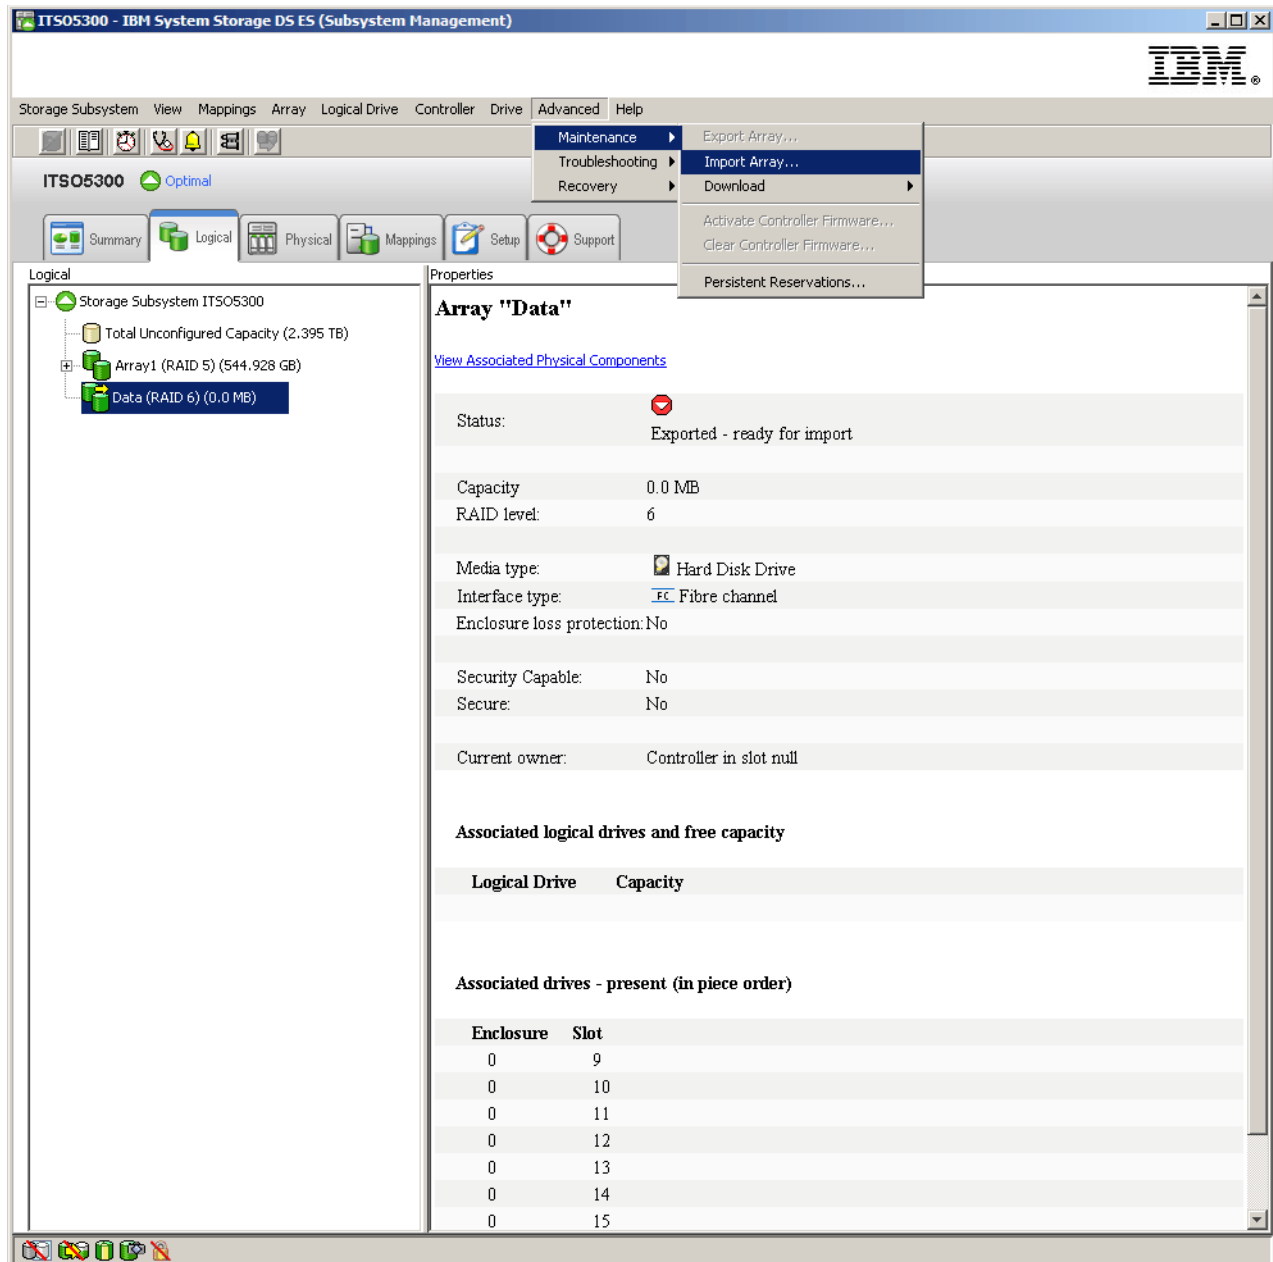

Figure 7-44 Import Array option
1. Use the Import Array option to import an array that you have previously exported. From the Subsystem Management window in the Logical view, select the array, and then select **Advanced** → **Maintenance** → **Import array**, as shown in Figure 7-44.